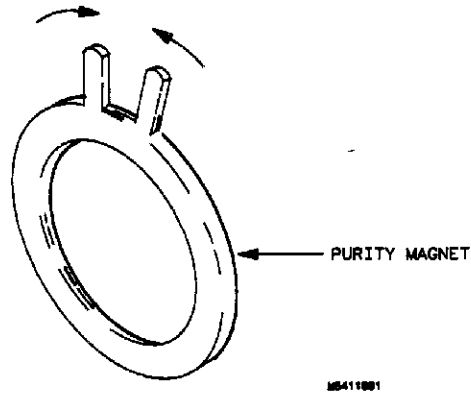

Figure 4-15. Purity Magnet Centering.
4. Set purity magnet tabs to mechanical center. See figure 4-15.